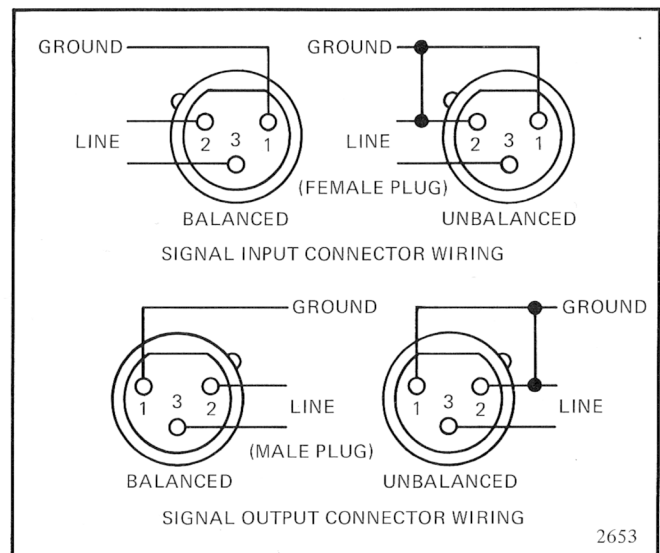

Figure 6. Input/Output Connector Wiring
3. Connect the input and output signal lines to their proper jacks, as marked on the rear of the signal electronics assembly. Type XL 3 wire standard audio plugs (not supplied) are required for both input and output connections. See figure 6 for plug wiring details.